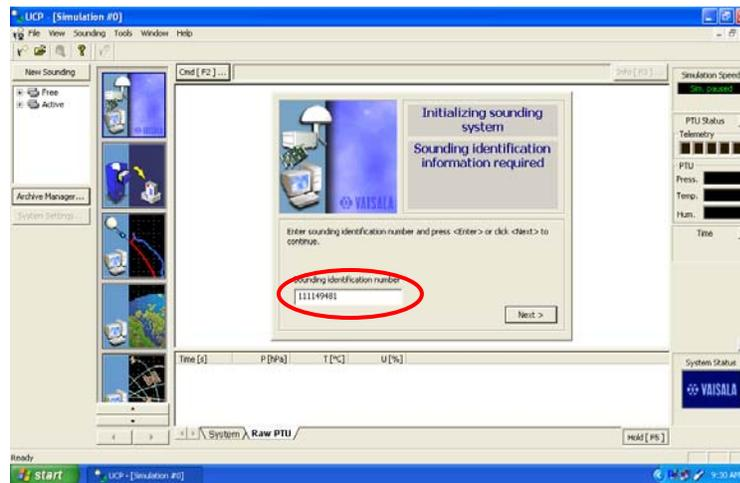

Figure 8b
31. Enter the sounding number in the blank box (see Figure 8b) and on the Pre-Flight Sonde Check Form using the following format: **90MMDDYYn**.